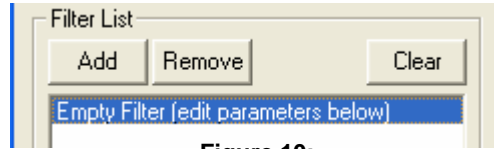

Figure 10:
27. Select the **Empty Filter** item as shown on the following page on Figure 10.